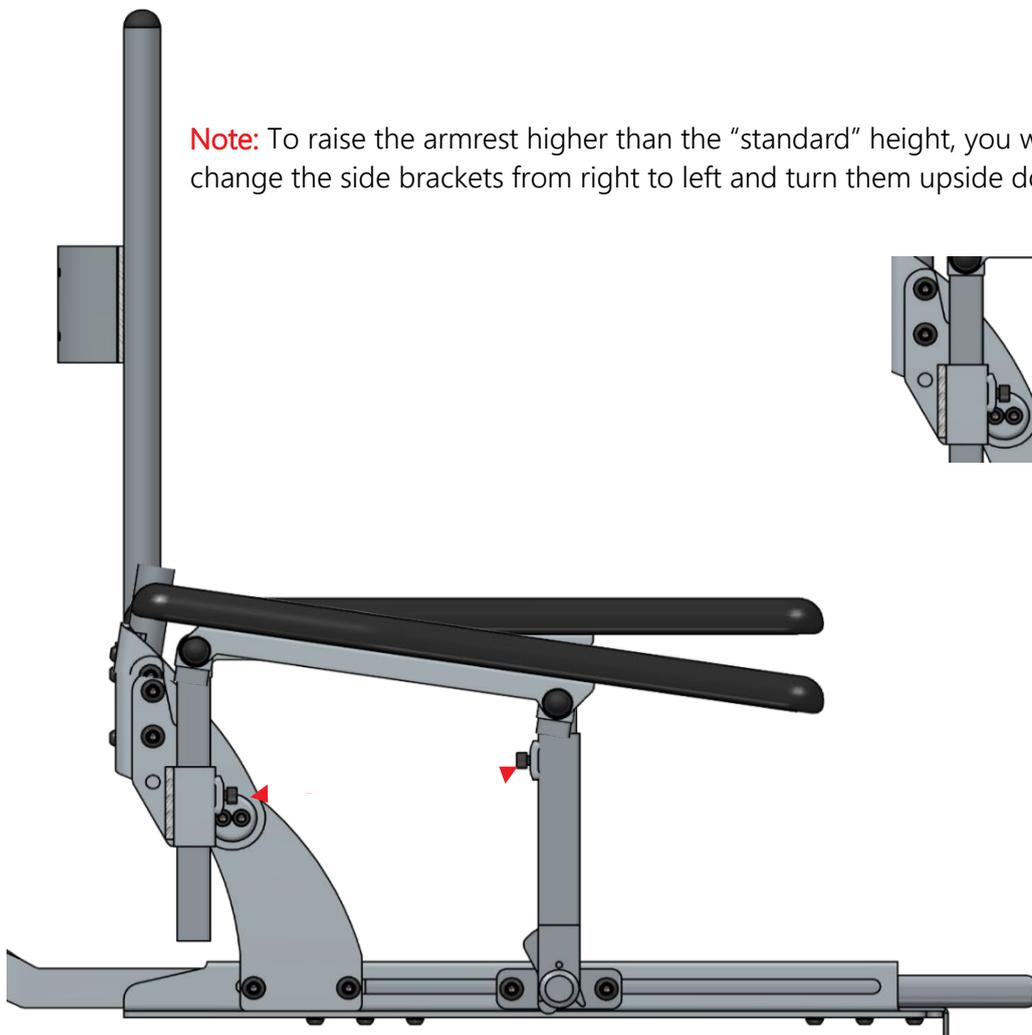

Figure 5
1. Loosen the four bolts (Fig. 5 - Pos. A).
3. Tighten the four bolts (Fig. 5 - Pos. A).